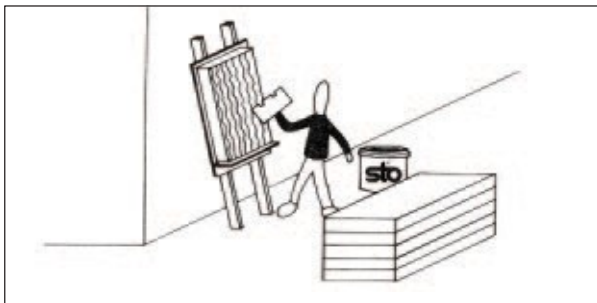

Fig. 12 Adhesive installation with notched trowel
To make application easier and quicker, build an 'easel' to hold the insulation boards as you apply the adhesive (Fig. 12). A pail placed under the easel will catch material that falls from the board, reducing waste and clean-up.
*For more extensive discussion of reveals, see EIFS Practice Manual 2.4.8: Aesthetic Reveals, and Figs. 12 and 13.*